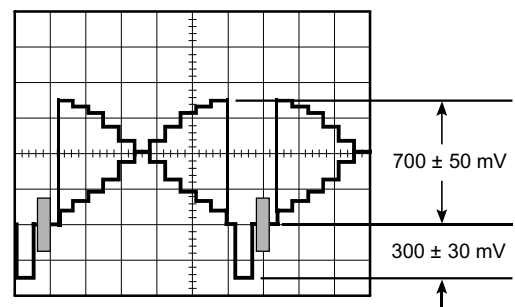

Fig. 4-16
- Confirm that the Video Output signal level becomes 700 ± 50 mV as shown in Fig. 4-16.